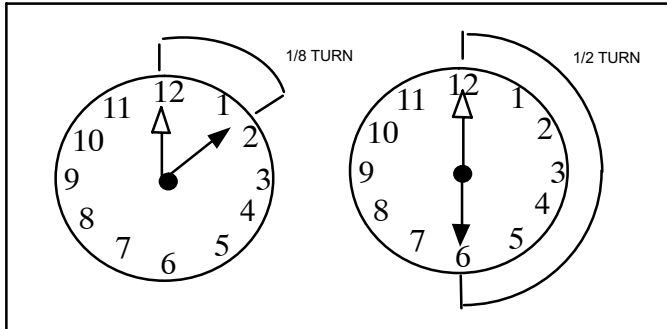

Figure 19. Tightening Distance
- Attached the liquid line assembly to the liquid line orifice housing. Finger tighten and use an appropriately sized wrench to turn an additional 1/2 turn clockwise as illustrated in figure 19, or 20 ft-lb.
3. Attach the stubbed end of the kit valve to the liquid line orifice housing. Finger tighten and use an appropriately sized wrench to turn an additional 1/2 turn clockwise as illustrated in figure 19, or 20 ft-lb.
5. Attach the liquid line assembly to the TXV. Finger tighten and use an appropriately sized wrench to turn an additional 1/22 turn clockwise as illustrated in figure 19, or 20 ft-lb.
8. Connect the equalizer line from the TXV to the equalizer suction port on the suction line. Finger tighten the flare nut plus 1/8 turn (7 ft-lbs) as illustrated in figure 19.